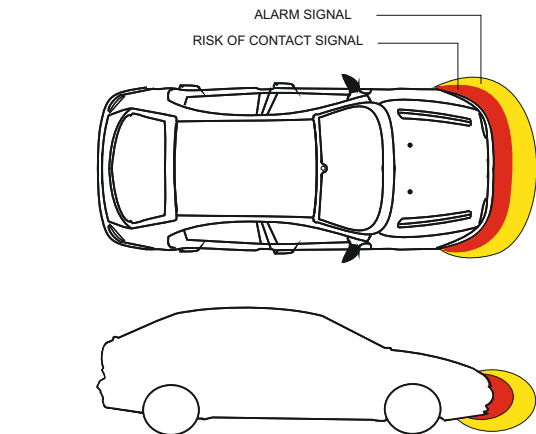

Fig. 6
- d) Insert into the ECU all connectors in the proper position (see Fig. 6)
The activation of the device is obtained by pressing the activation button and confirmed by a signal of "OK". Once activated, the EPS-DUAL FRONT generates around the bumper, on which is installed, a protection zone (Fig. 6). When any obstacle present in the protection zone tends to approach the bumper you will hear a series of beeps.
- The distances will vary depending on the size of the obstacle and correspond to the central zone of the bumper; on the lateral edges the distances are less (see Figure 6)